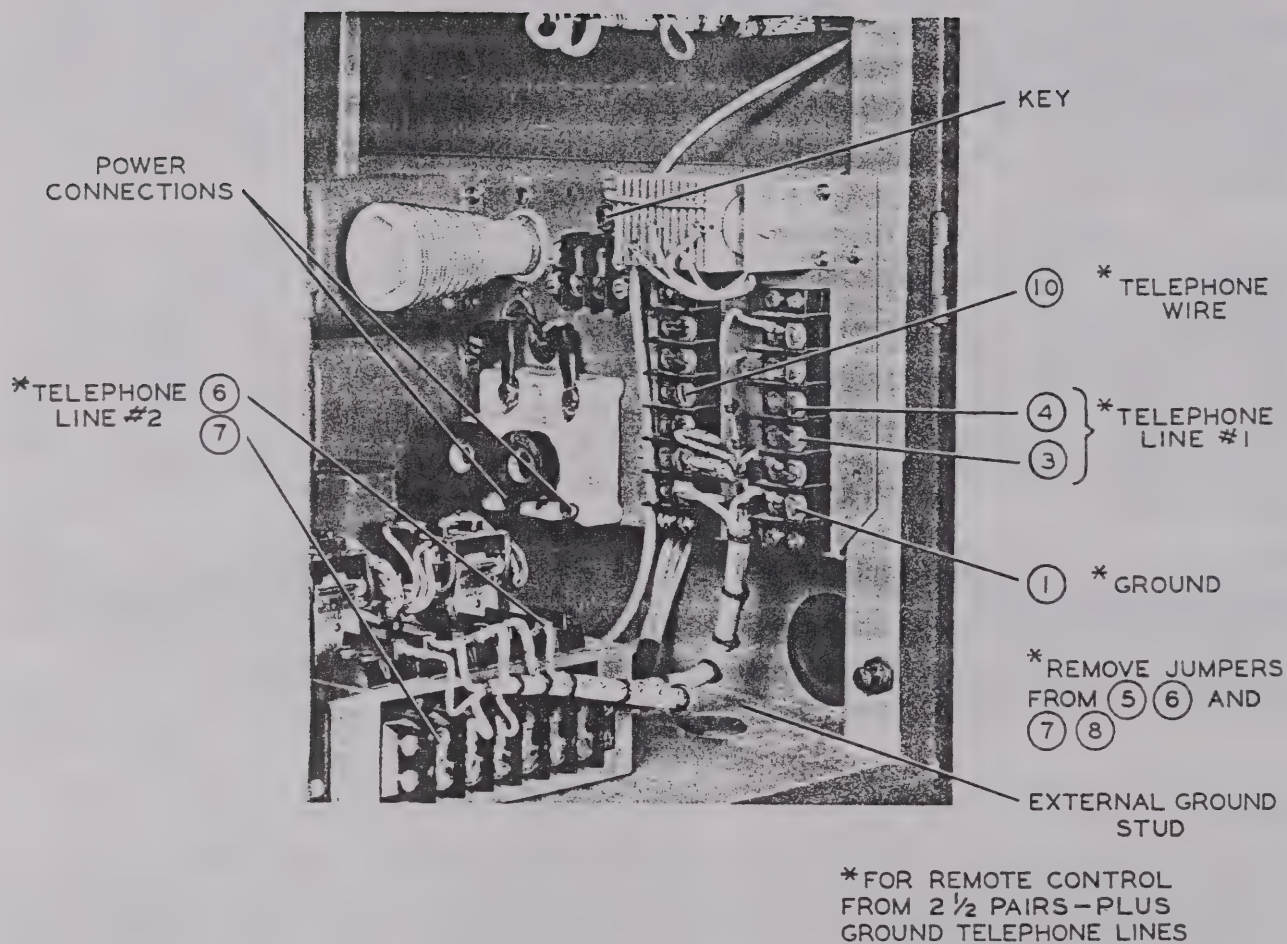

Figure 2-4. External Connections
Connect the antenna to the terminals at the top rear of the transmitter. Connect the ground system to the terminal on the cabinet base. See figure 2-4.
(4) REMOTE CONTROL UNIT CONNECTIONS - A 7/8" diameter hole is provided at the cabinet base for entrance of remote control lines if used. Refer to figure 2-4.